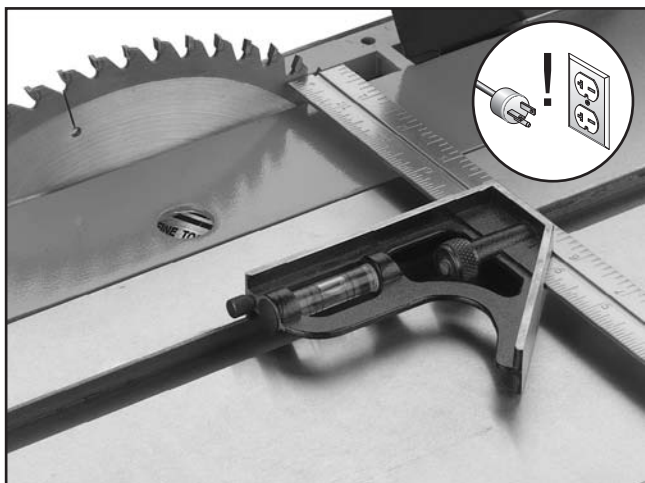

Figure 112. Example of adjusting blade to miter slot.
2. Use an adjustable square to measure the distance from the miter slot to a carbide tip on the blade, as shown in **Figure 112**. Make sure that the face of the adjustable square is even along the miter slot.